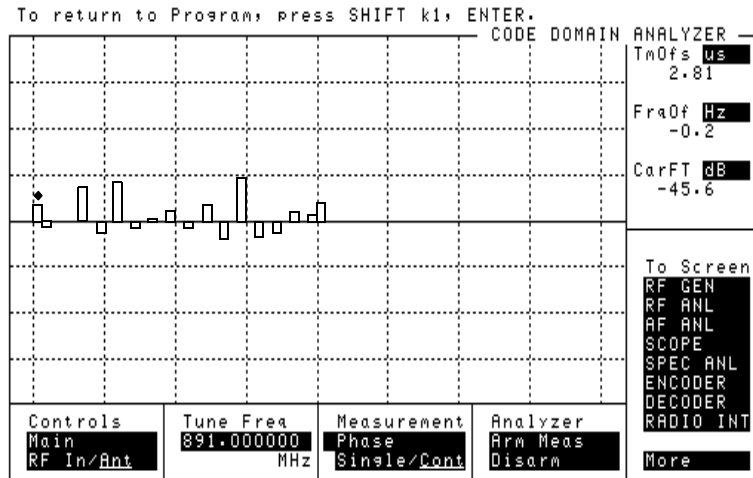

Figure 15
- 7 You should now see a display of relative phase, as shown in figure 15.